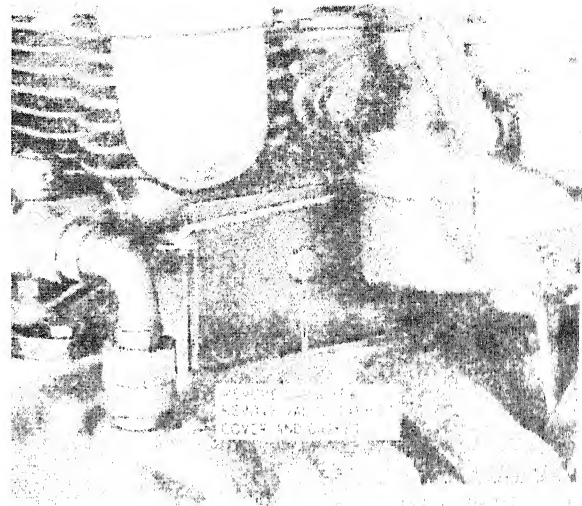

Figure 31. Valve tappet cover, removal and installation.
a. Valve Tappet Cover Removal. Refer to figure 31 and remove the valve tappet cover and gasket.